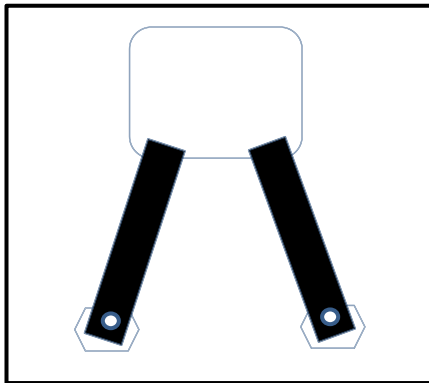

Figure 1: 09 - 14 RAM 1500, 2500, 3500, exc. 2014 1500 Quad Cab.
Step 3: Using the 3/8" threaded clips, slide two clips in the upper rectangular hole, and align one clip in each hex hole so the clip threads are visible. **Figure 1**